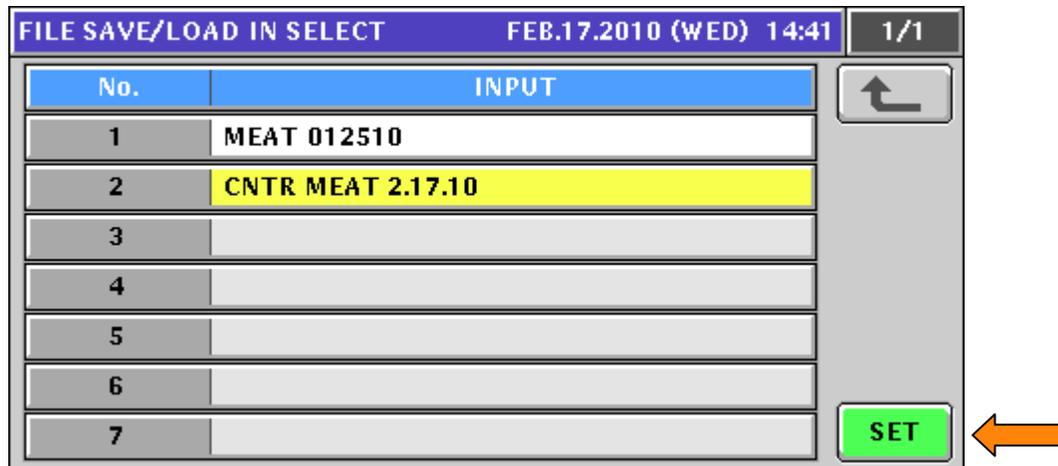

Figure 6.6. Select Input File
10. Press **SET** to select the file and return. See Figure 6.6.